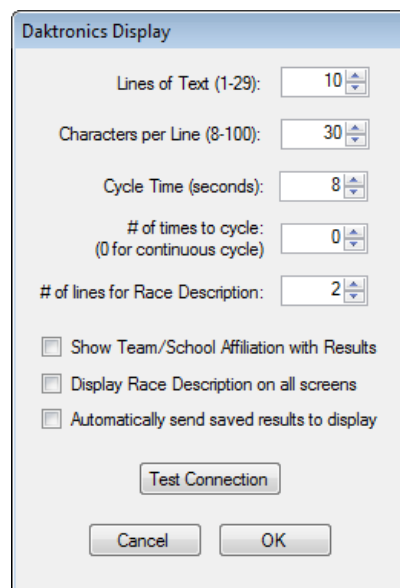

Figure 27: Display Settings
5. Go to **Display > Display Settings** (**Figure 27**).